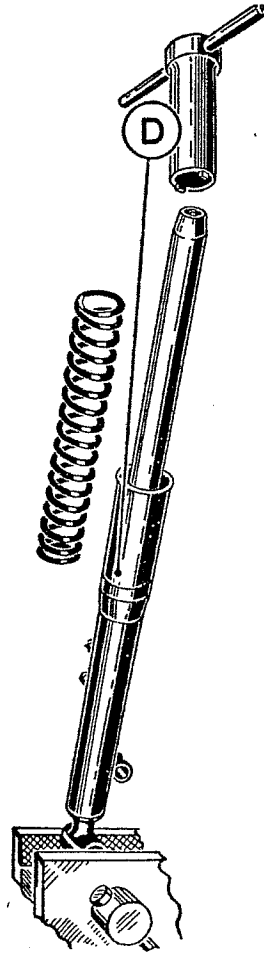

Fig. X2.
To dismantle the lower section of the fork hold the fork sliding tube by gripping the wheel spindle lug in a soft-jawed vice and lift off the spring (see Fig. X2).
Enter service tool part number 61-3005 until the dogs on the tool engage in the slots at the bottom of the oil seal holder (D) Fig. X2. Pressing the tool down and turning at the same time unscrew the oil seal holder. Slide the holder up the shaft until it becomes tight on the tapered section of the shaft. Do not use excessive force or the oil seal may be damaged.